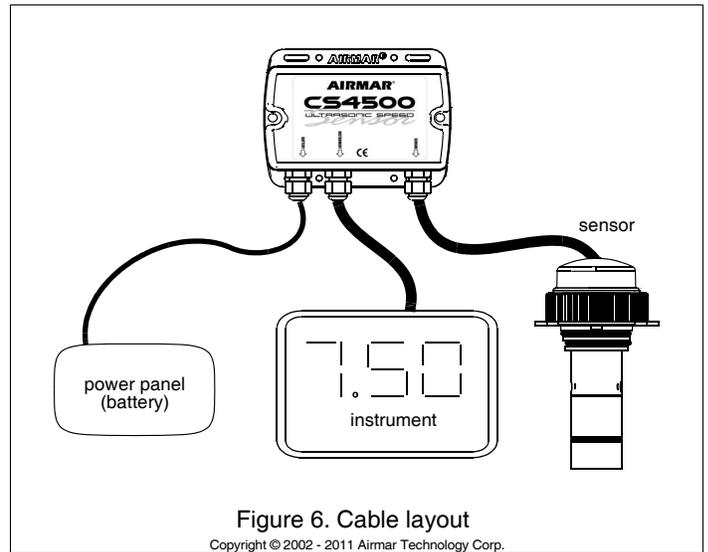

Figure 6. Cable layout
Aquatic growth will seriously affect the ultrasonic insert's performance. Clean the active face with a dull putty knife being careful to avoid scratching the surface (see Figure 6). If fouling is severe, lightly wet sand the surface with fine grade (#320) wet/dry paper.
1. Select a convenient, *dry*, mounting location for the water-resistant junction box, about 1–2m (3' – 5') from the instrument (see Figure 6).